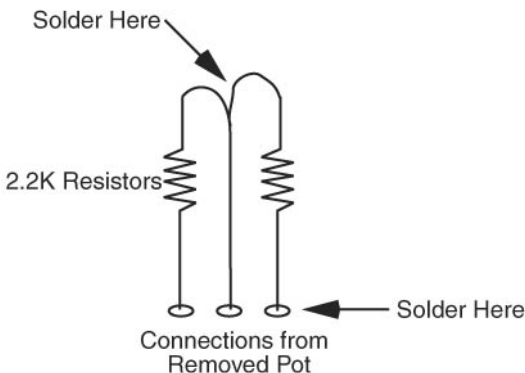

FIGURE 22-8 To modify a servo you must replace the internal potentiometer with two 2.7K resistors, wired as a voltage divider as shown here.
3. Remove the potentiometer and replace it with two 2.7K- Ω 1 percent tolerance (precision) resistors, wired as shown in Fig. 22-8. This voltage divider circuit “fools” the servo’s control circuitry into thinking it’s always in the center position and will respond by turning the motor any time the incoming PWM is outside the center position (which is found using the calibrate program previously listed). Another approach is to relocate the potentiometer to the outside of the servo case, so that you can make fine-tune adjustments to the center position. If you do this, it is suggested that a multi-turn trimmer potentiometer is used.